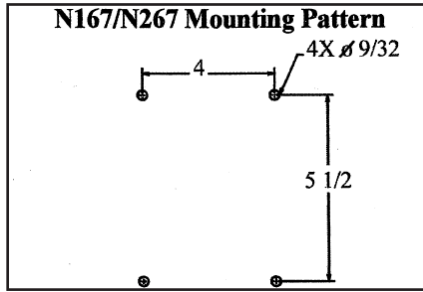

Figure 10
1. Use pattern (Figure 10) for mounting power supply on your machine. Mount power supply following instructions included with your power supply.